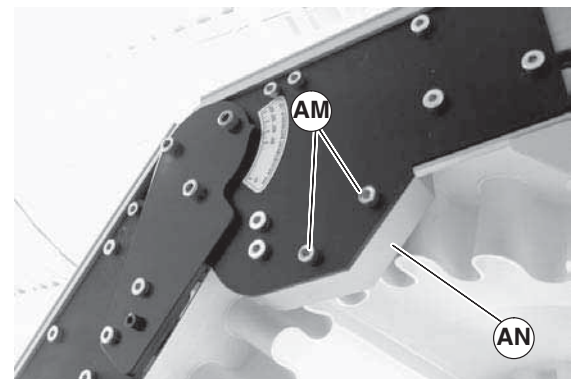

Figure 18
5. Remove screws (Figure 18, item AO) and remove roller bearing (AP).